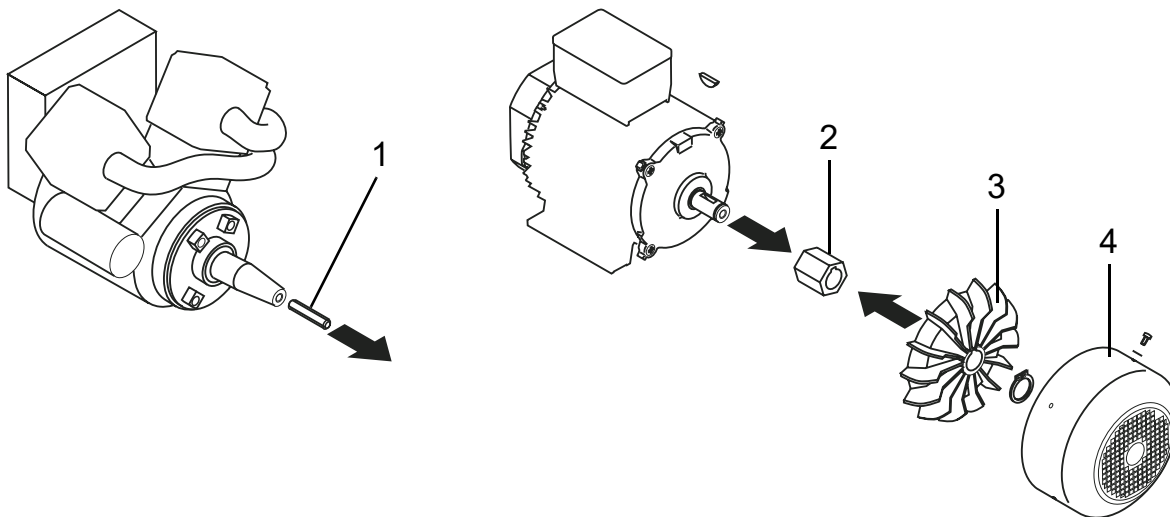

Fig. 37 Disassembly of brushless single-bearing generators (3)
- ⇒ **Fig. 37, Disassembly of brushless single-bearing generators (3), page 110**
- > Unscrew the grub screw [1] (Figure 37) from the shaft of the drive motor with a hexagon socket wrench.